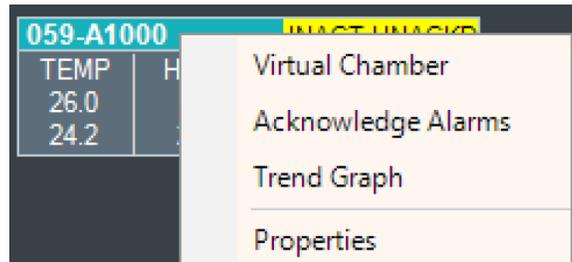

Figure 3-29 Chamber Properties
3. Select **Properties** (Figure 3-29).